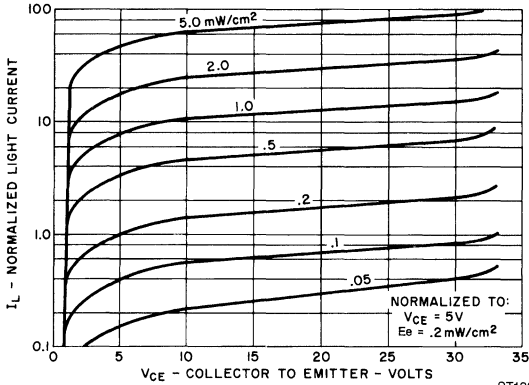
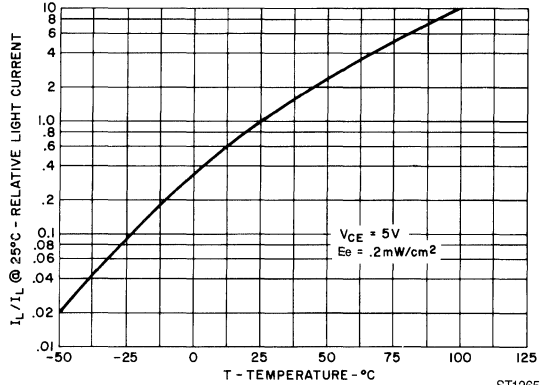

Fig. 1. Light Current vs. Collector to Emitter Voltage ST1260
Fig. 2. Relative Light Current vs. Ambient Temperature ST1265
8. Figure 1 and figure 2 use light source of tungsten lamp at 2870°K color temperature. A GaAs source of 0.05 mW/cm^2 is approximately equivalent to a tungsten source, at 2870°K , of 0.2 mW/cm^2 .